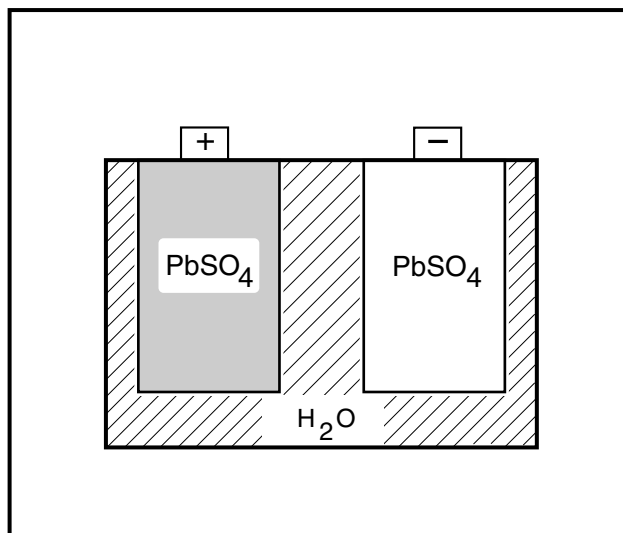

Figure 13-3 Discharged Battery
The sulfate (SO_4) combines with the lead (Pb) on both plates, forming lead sulfate (PbSO_4). Oxygen (O_2) from the positive plates combines with hydrogen (H) from the electrolyte to form water (H_2O) (Figure 13-3, Page 13-2).